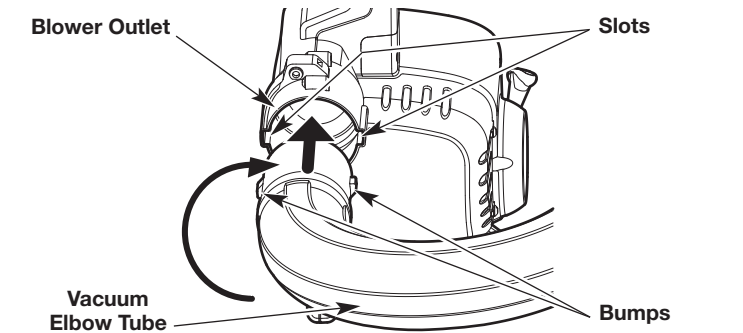

Fig. 9
2. Align the bumps on the vacuum elbow tube with the slots on the blower outlet (Fig. 9). The flared end of the vacuum elbow tube should point to the right.
3. Insert the vacuum elbow tube into the blower outlet (Fig. 9).
4. Twist the vacuum elbow tube clockwise until it locks into place (Fig. 9).